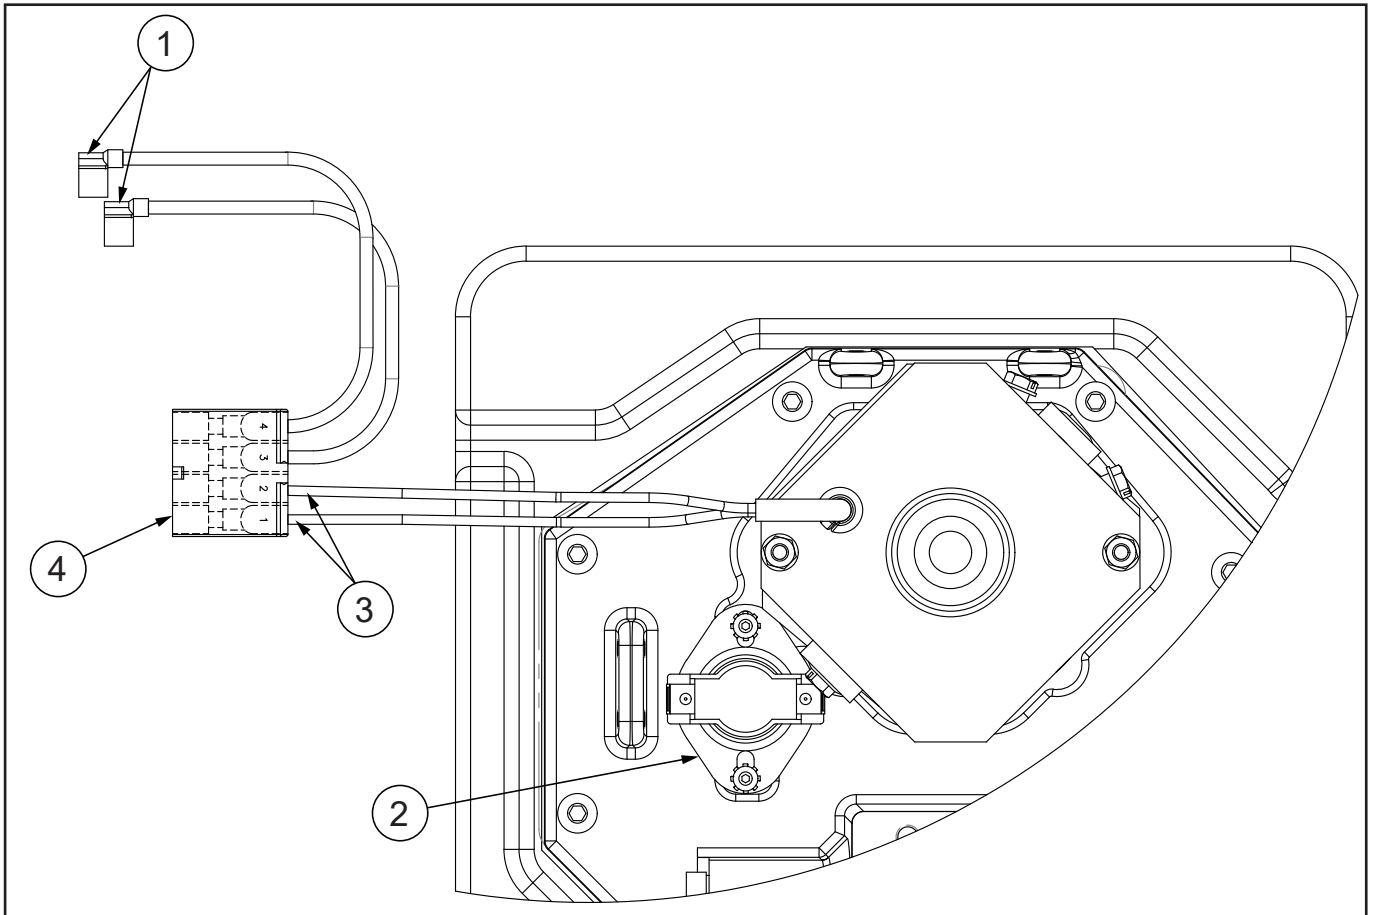

Figure 1: Shroud Removal
3. Disconnect brown wires (Item 1, Figure 1) from the thermostat (Item 2, Figure 1).
4. Cut off motor wires (Item 3, Figure 1) as close to the connector (Item 4, Figure 1) as possible.
5. Discard connector and old shroud assembly (Item 4, Figure 1).